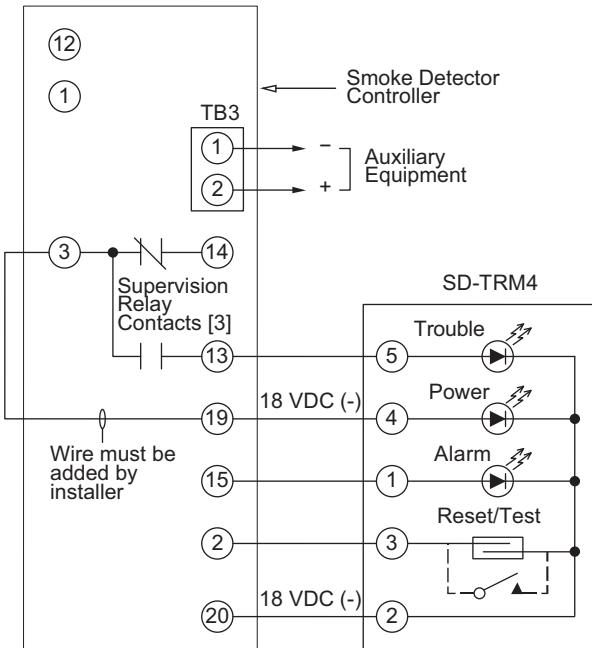

Fig. 45 – Remote Test/Reset Station Connections
The test/reset station dirty sensor test checks the test/reset station's ability to initiate a sensor dirty test and indicate the results. It must be wired to the controller as shown in Fig. 45 and configured to operate the controller's supervision relay. For more information, see "Dirty Sensor Test" on page 35.
1. Verify that the remote test/station is wired as shown in Fig. 45. Repair or replace loose or missing wiring.